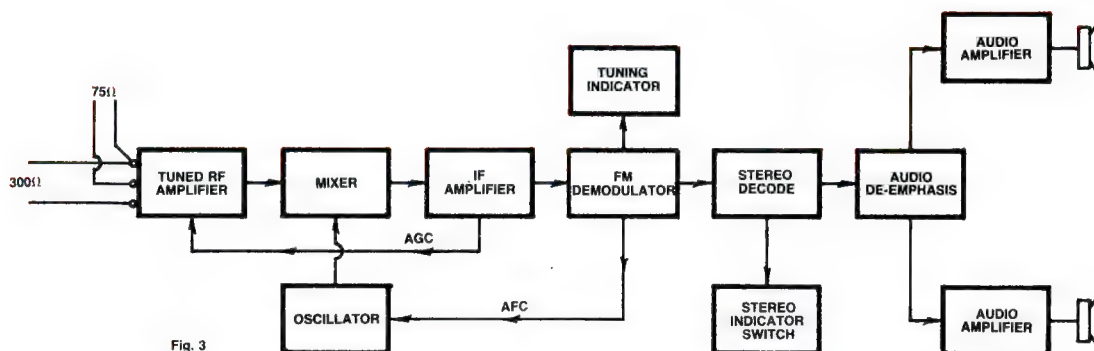

Fig. 3
the earlier chapter on AM-stereo receivers. There are important differences though, as will become apparent from the block diagram, Fig.3. We will take an initial look at the various stages, by way of orientation!
While the bandpass is important in an FM tuner, the linearity in terms of signal overloading is not. In fact, the "limiter" stage (or stages) included in most FM tuners are essentially IF amplifier stages which are deliberately set up and over-driven so that they will overload, even when handling what were originally very weak signals. In so doing, they have the "clipping" effect, illustrated in Fig.3 of the previous article, virtually eliminating redundant AM (noise) components but retaining the FM information.
**Fig.3:** the basic circuit functions in an FM superhet tuner/receiver, valid for both valve and solid-state technology. Modern designs contain extra modules for digital control and readout, which has taken over from analog tuning and dials.
Referring back to the various functions depicted in Fig.3, the Heathkit AJ-1214 used a single FET (field effect transistor) as a tuned RF amplifier, with AGC voltage applied to its gate electrode.